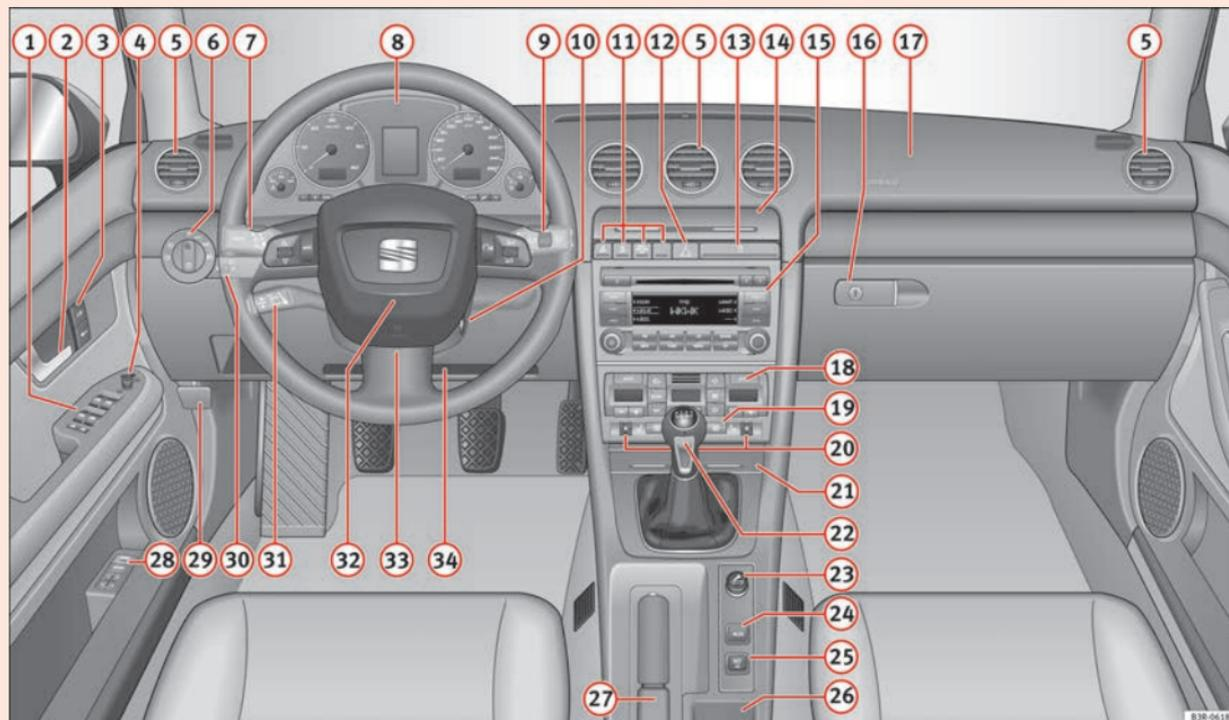

Fig. 37 Some of the equipment listed in this section is only fitted on certain models or are optional extras.
- The arrangement of switches and controls on right-hand drive models* may be slightly different from the layout shown in ⇒ Fig. 37. However, the symbols used to identify the controls are the same.